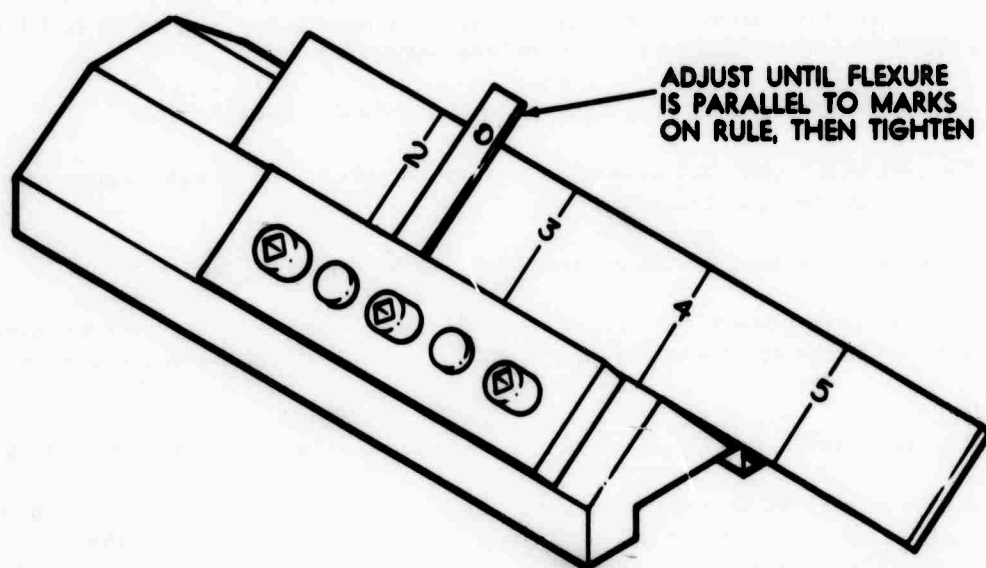

Figure 5-8. Adjustment of Flexure Plate
- a. Carefully work flexure plates (21 and 22) over dowel pins on pivot block (24).
- c. Place a steel rule behind flexure plates, as illustrated in figure 5-8, and adjust the plates until they are perpendicular to the block.
- d. Carefully work flexure plates (21 and 22) over the dowel pins in the stationary flexure block (19). Install clamping blocks and screws and tighten.
- e. Attach horizontal flexure block (15) to the lower flexure block (19).
- f. Carefully work horizontal flexure plates (13) over the dowel pins.
- g. Install clamping block (14) and clamping screws (12). Tighten screws until they are snug but not tight.
- h. Attach assembly to the flexure bracket (10) by carefully working the horizontal flexure plates over the dowel pins of the bracket. Install clamping block (11) and clamping screws (12). Tighten the screws until they are snug but not tight.
- i. Position the horizontal flexure plates (13) so that they are perpendicular to both the flexure block (15) and bracket (10). Use a steel rule. Tighten clamping screws.